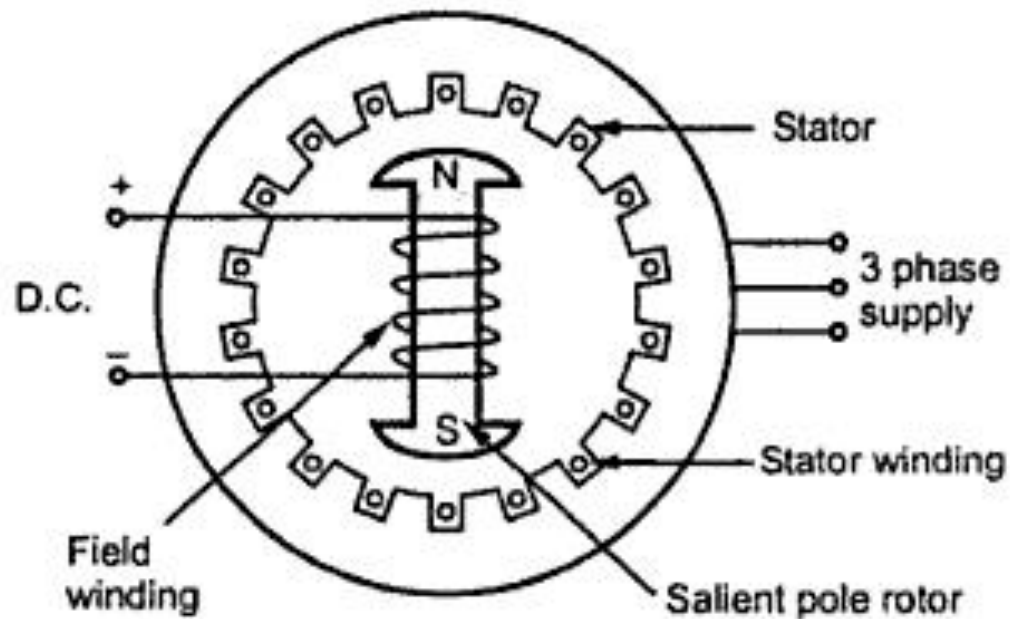

Figure 4.17 Synchronous generator construction
- Construction wise, an alternator consists of field poles placed on the rotating fixture of the machine i.e. rotor as shown in the Figure 4.17 below.